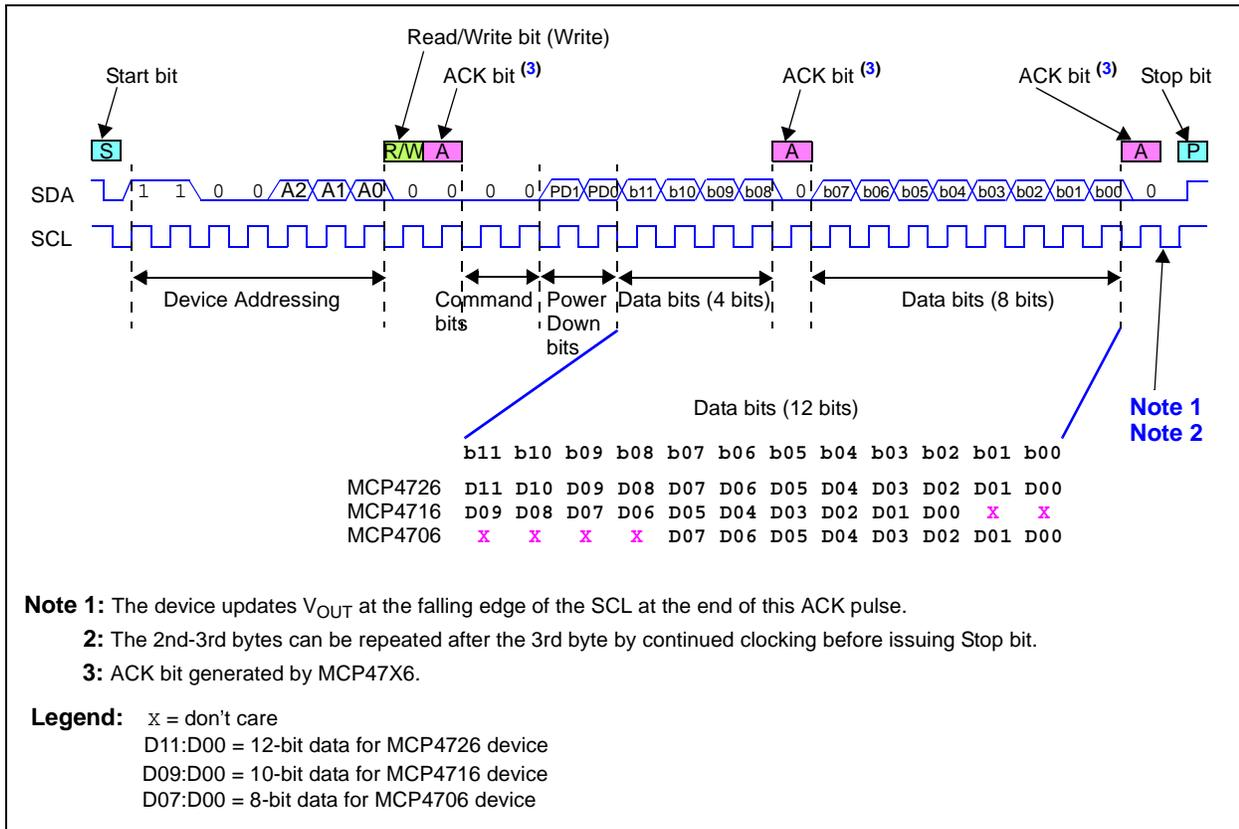

FIGURE 6-1: Write Volatile DAC Register Command.
**Note 1:** These bits are the MSb of the 2nd byte in the I2C Write command. See Figure 6-1 to Figure 6-4.
Figure 6-1 shows an example of the command format, where a Stop bit completes the command.